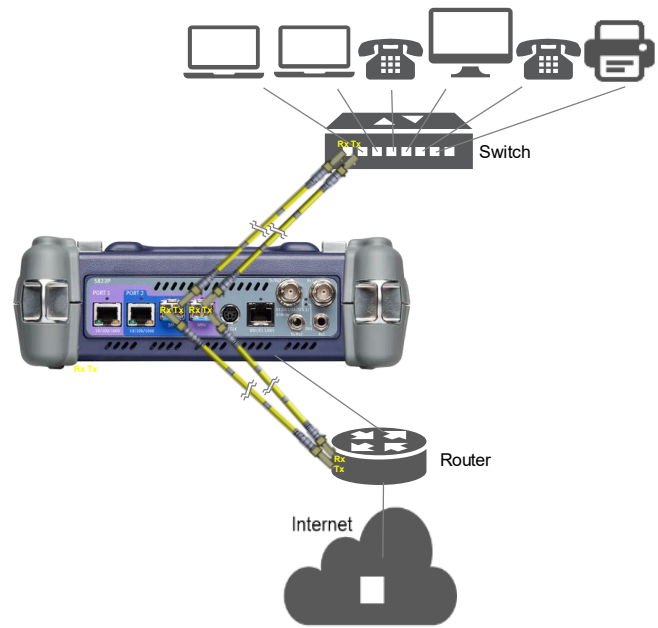

Figure 3: Optical Dual Thru mode connection
2. For optical testing, packets received on each SFP/SFP+ are retransmitted on the transmit fiber of the same SFP/SFP+, as in figure 3.